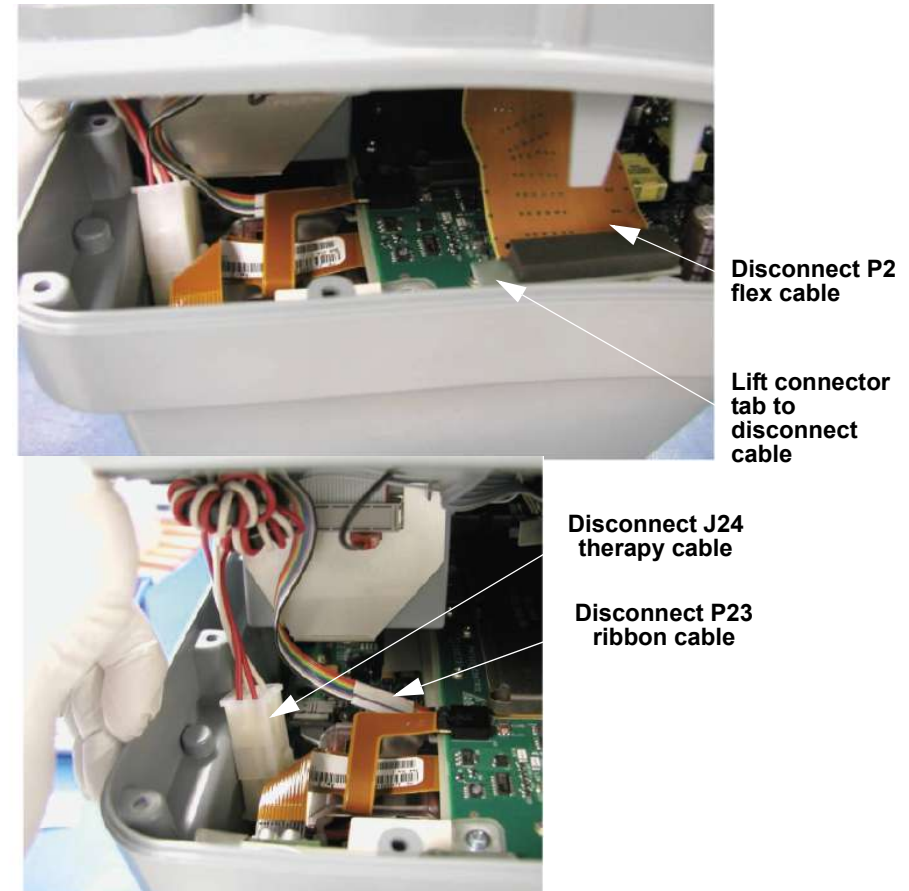

Figure 10.6—Disconnection points
**POSSIBLE COMPONENT DAMAGE** - Ensure the therapy cable wires are routed away from the edge of case to avoid wire pinching (see Figure 10.6 on p. 303).